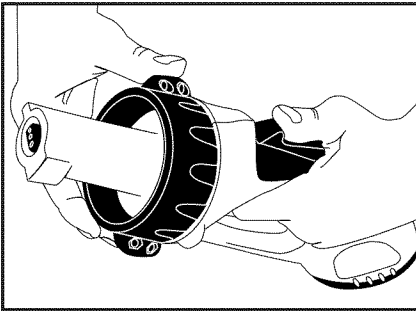

Figure 1
1. Twist the lock ring on the power handle to the unlocked position. (see figure 1)